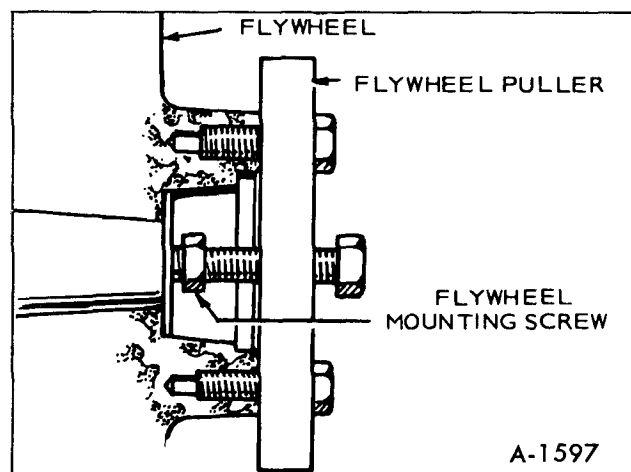

Figure 8-Flywheel Removal
2. Install a puller bar on the flywheel as shown in Figure 8.